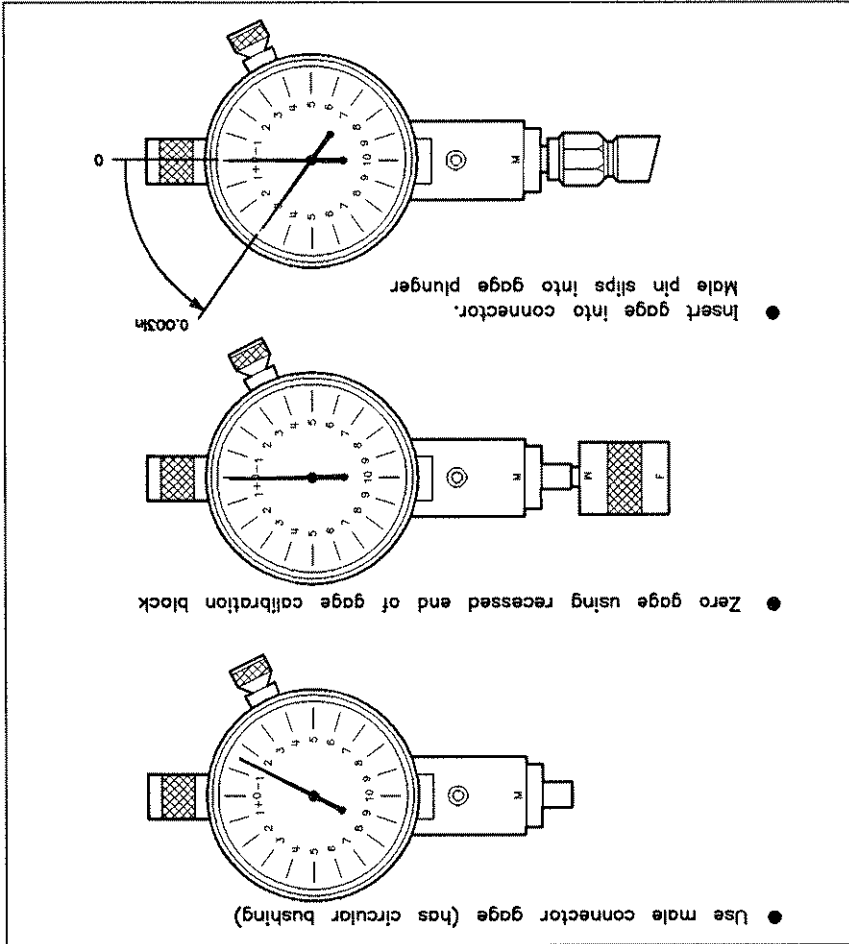

Figure 3-15. Gaging a 3.5 mm Male Connector Using a Push-on Type Gage
1. Refer to Figure 3-15. The male 3.5 mm connector gage (usually marked M) has a circular bushing surrounding the gage plunger.